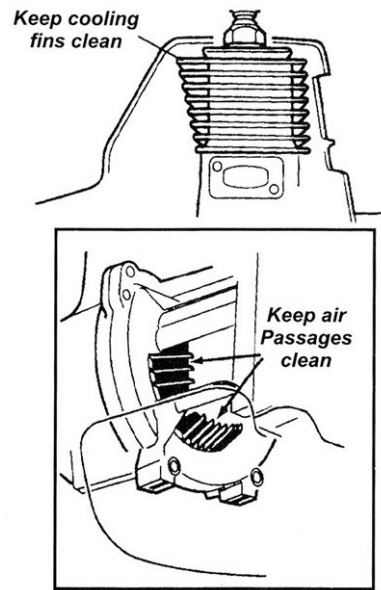

Figure 33
- Remove all dirt and debris from the engine, check the cooling fins and air cleaner for clogging, and clean as necessary. see Figure 33.